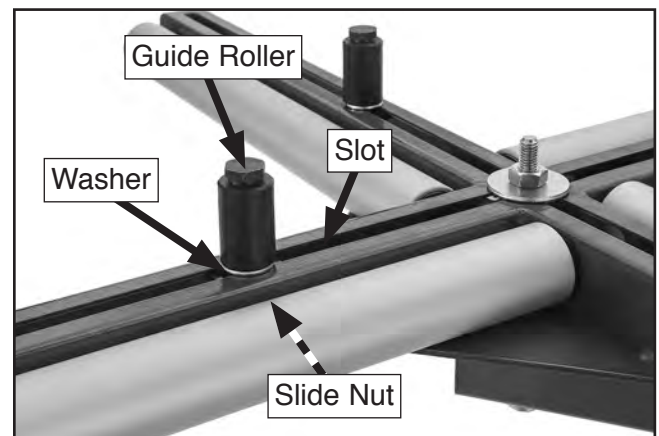

Figure 29. Guide roller installed in coil support slot.
- Place slide nut under slot in coil support assembly, then thread guide roller with washers into nut from above and tighten, as shown in **Figure 29**. Repeat with remaining three guide roller assemblies in each of the remaining slots.